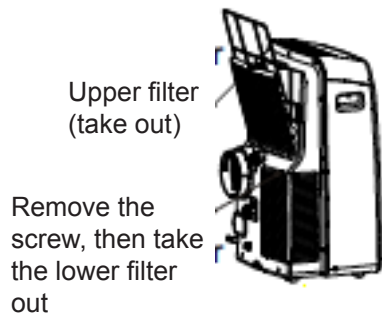

Fig. 23
- Removal This unit has two filters. Take the upper filter out along the the arrow direction (Fig.23),then take the filter down.
Remove the lower filter by loosening the screw, taking out the filter as shown in Fig.23.